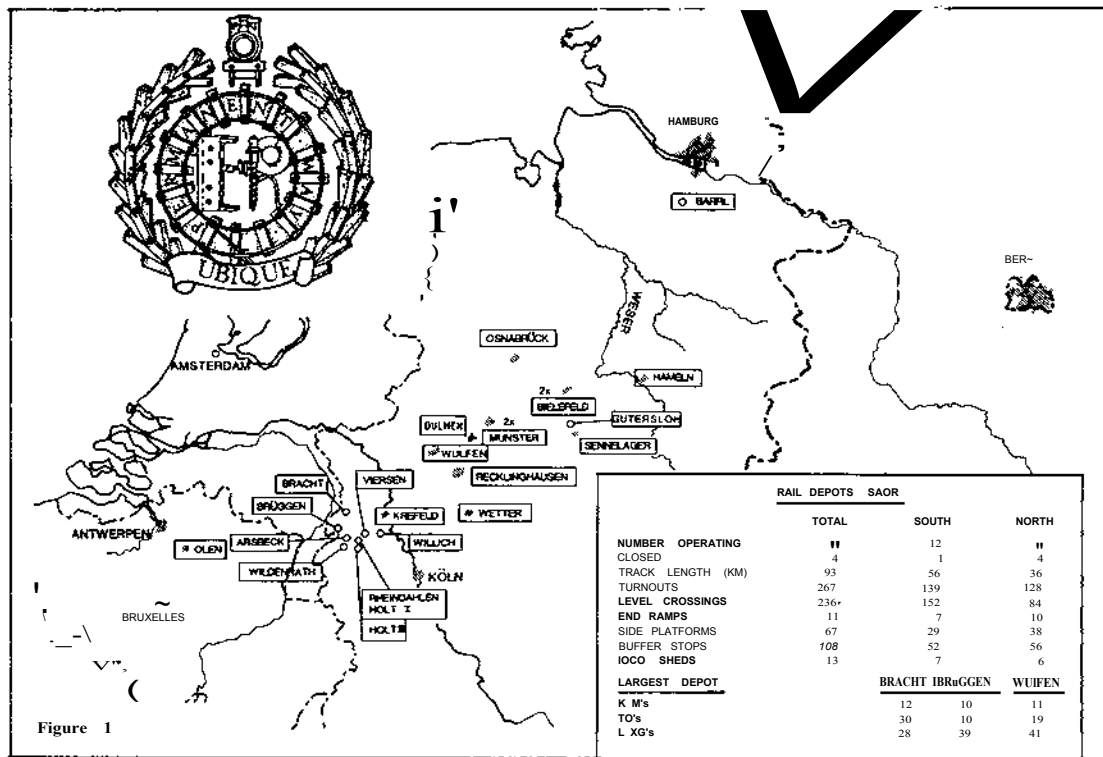

Figure 1
CONTRARY to common belief there are in fact many military rail depots in Germany (22) and Belgium (1). The track work, or to use the correct term, permanent way, within and leading to these 23 depots, for which British Forces (BF) are responsible, amounts to over 100km. The extent of depots is shown at Figure 1.